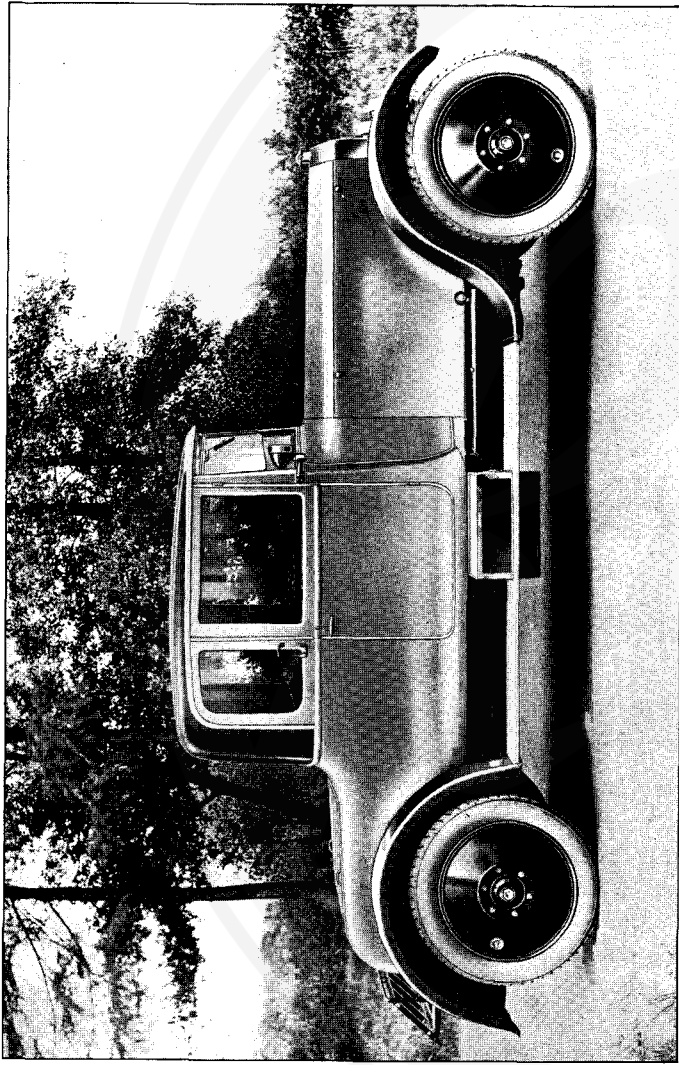

*Fig. 20. Rear Suspension.*
*Suspension.* The Rear Suspension Fig. 20 is of the Lanchester Cantilever design. A range of 4 types of springs are standardised to suit different weights of bodywork, and provision is made for approximately  $1\frac{3}{4}$ " of adjustment vertically. The springs are pivoted at their centre on bearings having a floating phosphor bronze bush. Oil is employed as a lubricant and the pin on which the bearing is mounted is of large diameter and hollow, forming an oil reservoir. In place of